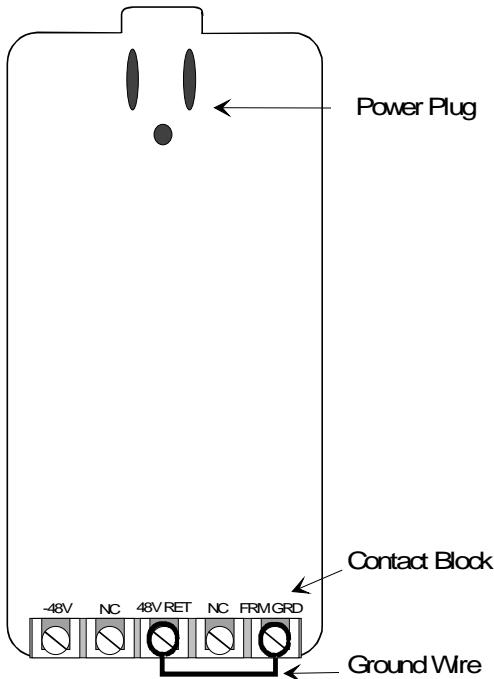

Figure 2-5. Tellabs 8012 Power Supply, Rear View
3. An 8012 power supply from Brooktrout comes with a ground wire connected to the contacts labeled **48V RET** and **FRM GRD** (Figure 2-5). Verify the ground wire is connected to the contacts.